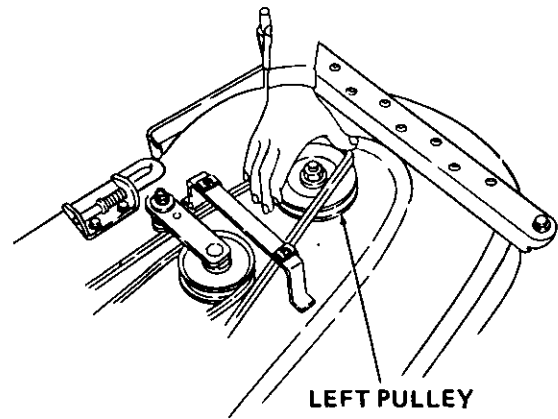

Figure 28
5. Place belt on left pulley. Carefully turn left pulley to set belt onto left pulley. Refer to Figure 28.